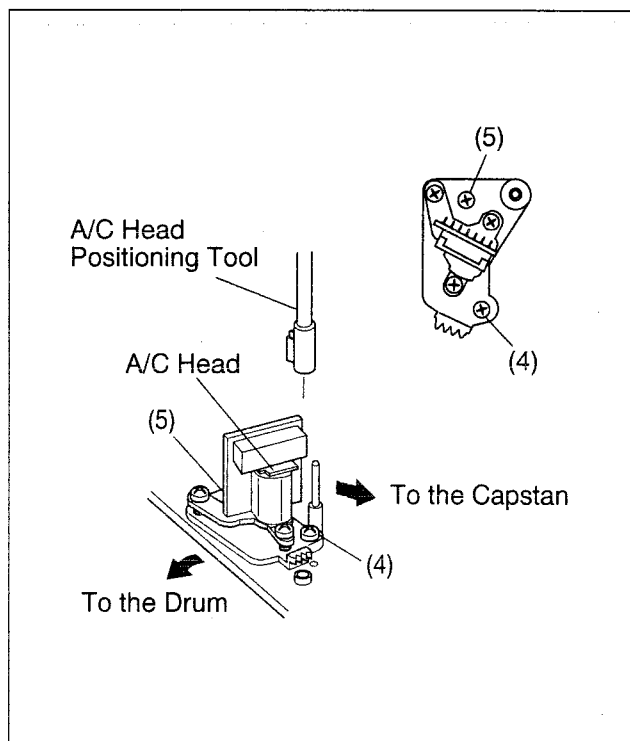

Fig. 2-8-6
- (1) Connect an oscilloscope to TP106 (PB FM) on the MAIN board assembly, and connect the external sync to TP111 (D.F.F) on the MAIN board assembly.
- (2) Play the MHPE alignment tape and observe the FM waveform.
- (3) Press the two channel buttons (+, -) on the set simultaneously during playback to initiate manual tracking. (The tracking is set to the centre position at this time.)
- (4) Loosen screws (4) and (5), then set the A/C head positioning tool (PTU94010) as shown in Fig. 2-8-6.
- (5) Turn the A/C head positioning tool to move the audio control head fully toward the capstan.
- Gradually return the audio control head toward the drum, stop the movement at the first point where the FM waveform is maximized, and fix screw (4) temporarily.
- (6) Play the MHPE-L alignment tape.
- (7) Press the two channel buttons (+, -) on the set simultaneously during playback to initiate manual tracking. (The tracking is set to the centre position at this time.)
- (8) Perform tracking and check that the FM waveform is maximized.
- (9) If it is not maximized, loosen temporary-fixed screw (4), turn the A/C head positioning tool to move the audio control head to the nearest point where the FM waveform is maximized, and tighten screws (4) and (5).